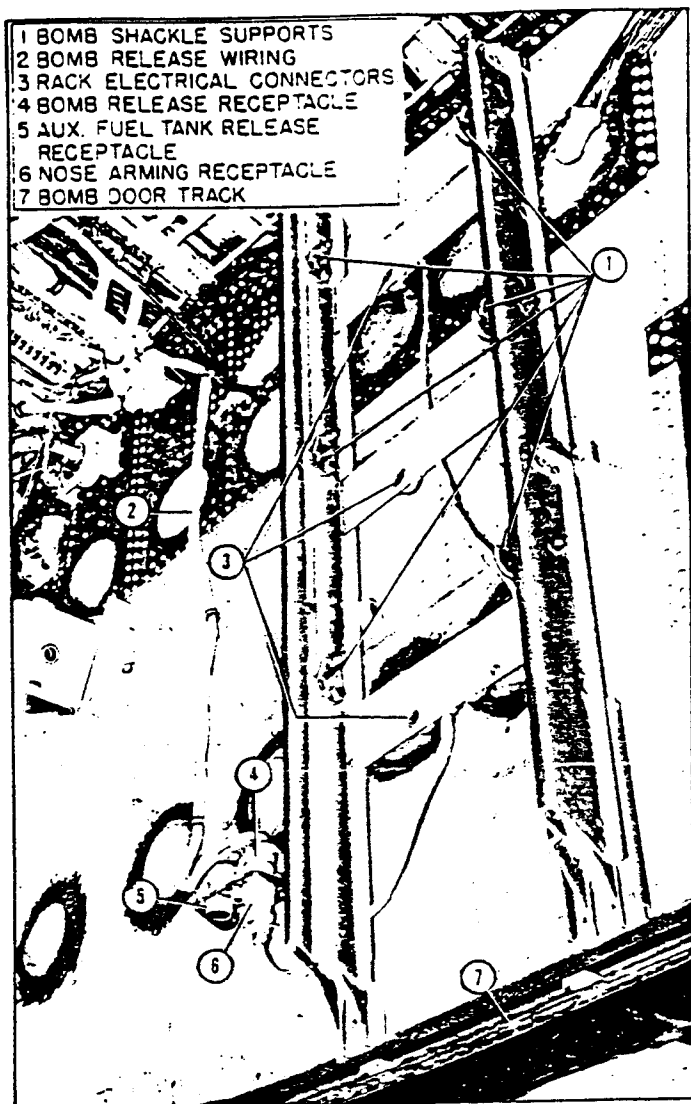

Figure 10. Bomb Rack Installation - Typical
(3) MAINTENANCE.- Replace any unit that fails to operate correctly.
h. BOMB RACKS. (See figure 10.)
(1) DESCRIPTION.- XB-35 airplane (AAF 42-13603) is designed to carry ten 500 pound bombs in each of its eight bomb bays. As this is an experimental airplane, the inboard bomb bays will ordinarily be filled with special equipment making them of no use for carrying bombs. Since 500 pound bombs are the only type for which the airplane is designed, the bomb rails, brackets, etc., ordinarily removable from an airplane, are to be left installed and should not be removed except in case of damage. Attached to each side of each bomb bay are two pairs of bomb rails. The forward pairs support three bombs each and the aft pairs two. Each pair of rails is different from the others and, in case of removal, care should be taken that each pair is replaced in its proper position. Hooks on the rails fasten to the bomb shackles which are attached to the bombs prior to hoisting. The release panels mounted between the rails are used to support the bomb rack releases and contain the electrical receptacles for the releases.
(2) REMOVAL: